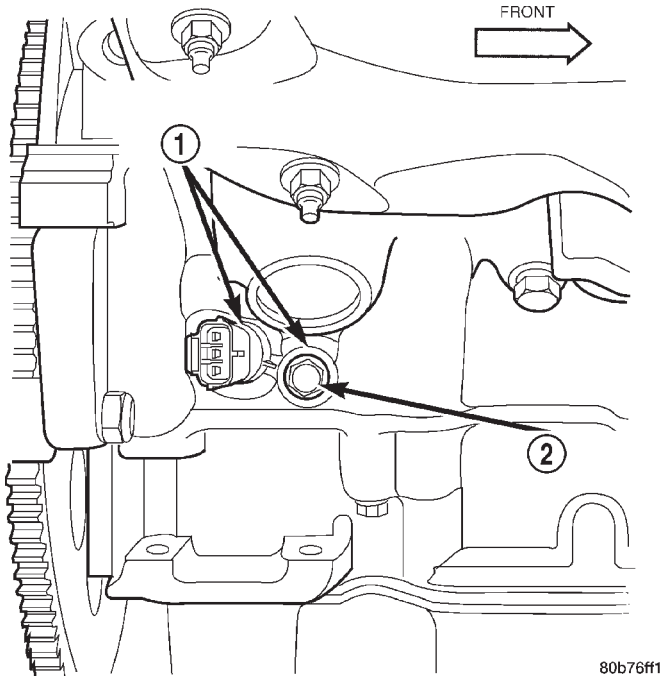

Fig. 28 CKP Sensor Location/Removal/Installation—4.7L V-8 Engine
The Crankshaft Position (CKP) sensor is located at the right-rear side of the engine cylinder block (Fig. 28). It is positioned and bolted into a machined hole in the engine block.
- (1) Disconnect CKP electrical connector at sensor.
- (2) Remove CKP mounting bolt (Fig. 28).
- (3) Carefully pry sensor from cylinder block in a rocking action with two small screwdrivers.
- (4) Remove sensor from vehicle.
- (5) Check condition of sensor o-ring.